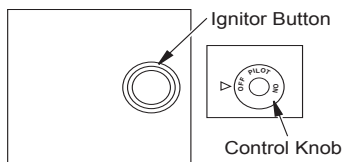

Figure 57 - Control Knob and Ignitor Button Location
5. Wait five (5) minutes to clear out any gas. Then smell for gas, including near the floor. If you smell gas, STOP! Follow "B" in the safety information, column 1. If you don't smell gas, go to the next step.
6. Press in and turn control knob counter-clockwise  to the PILOT position. Press in control knob for five (5) seconds (see Figure 57).